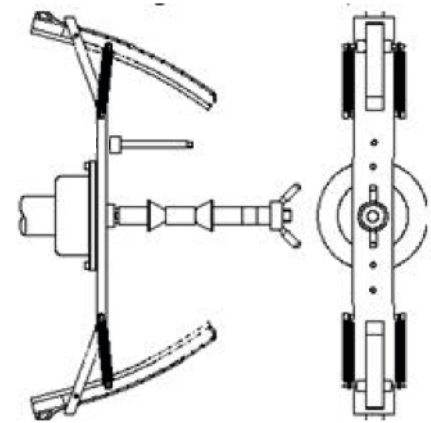

Figure F4.3. Application of the sample weight on the external side of the flange for motorbikes on the shaft
10. At the end of the launch, the machine will display the writing CAL h12. Apply the calibration weight on the external side as shown in Figure F4.3. The calibration weight is to be applied on the hole that has the wording "CAL" marked on it.
11. Bring the flange for motorbikes in perfect vertical position with the calibration weight at the top part as shown in figure F4.3 and press the [P8] Start or lower the wheel guard. If the position is significantly different from the vertical one, the machine will reject running the launch by emitting an acoustic error message (triple beep).